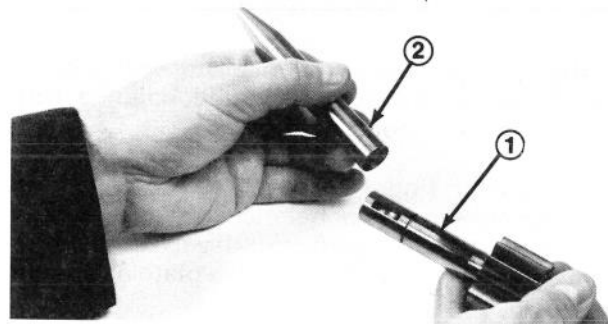

Figure 109
3. Oil new shaft seal liberally. Install seal over drive gear shaft, using either a seal protector (Fig. 109) or carefully working seal over shaft to prevent cutting seal lip. Seat seal by tapping it in with plastic hammer. Install a new snap ring.